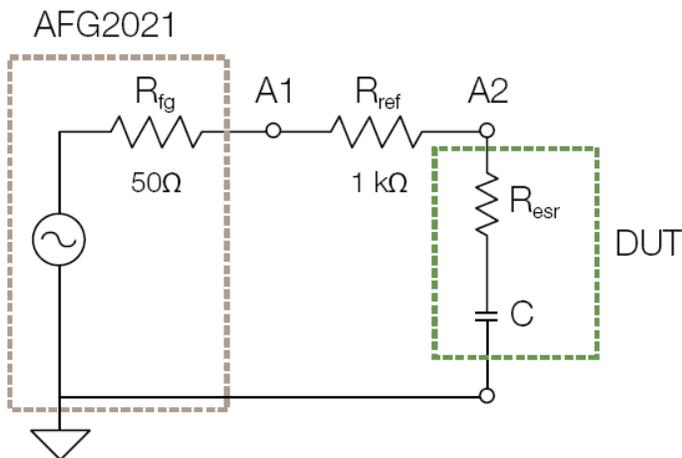

Figure 2. Impedance test circuit with a capacitor as the device under test (DUT).
1. Set up the test circuit as shown in Figure 2. Note that RESR and C are both associated with the ceramic capacitor under test, and that R_{fg} is the 50 Ω output impedance of the function generator.